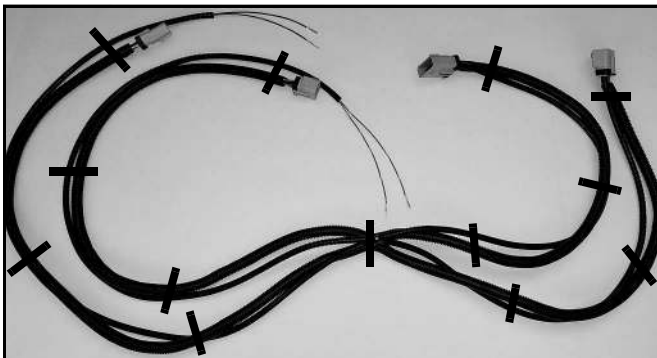

Figure 8
9. Layout the harnesses on top of one another and use the cable ties to hold the two looms together as one. (See Figure 8.) It does not matter which ends of the Main EIS Adapter (96116724) get tied to the ends of the EIS harness.